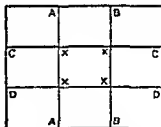

FIG 20
A good method of working is shown in Fig 20, and many workers mark their focussing screens or finders with the four lines (nine equal spaces) shown. Assuming the diagram to represent the picture space, then the horizon line should be at or very near either one-third the distance from the top or bottom, i.e. as C C or D D, while the principal object in the view—building tree or whatever it may be—should be at or near one-third the distance (A A or B B) from either side. The four places where the lines cross (X) are said to be the strongest points in a picture